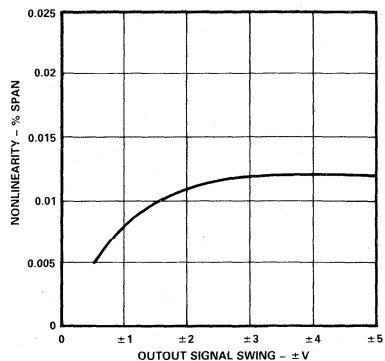

Figure 15. Nonlinearity vs. Signal Swing
**Operation at Reduced Signal Swing.** Although the nominal output signal swing for the AD202 and AD204 is  $\pm 5V$ , there may be cases where a smaller signal range may be desirable. When that is done, the fixed errors (principally offset terms and output noise) become a larger fraction of the signal, but nonlinearity is reduced. This is shown in Figure 15.